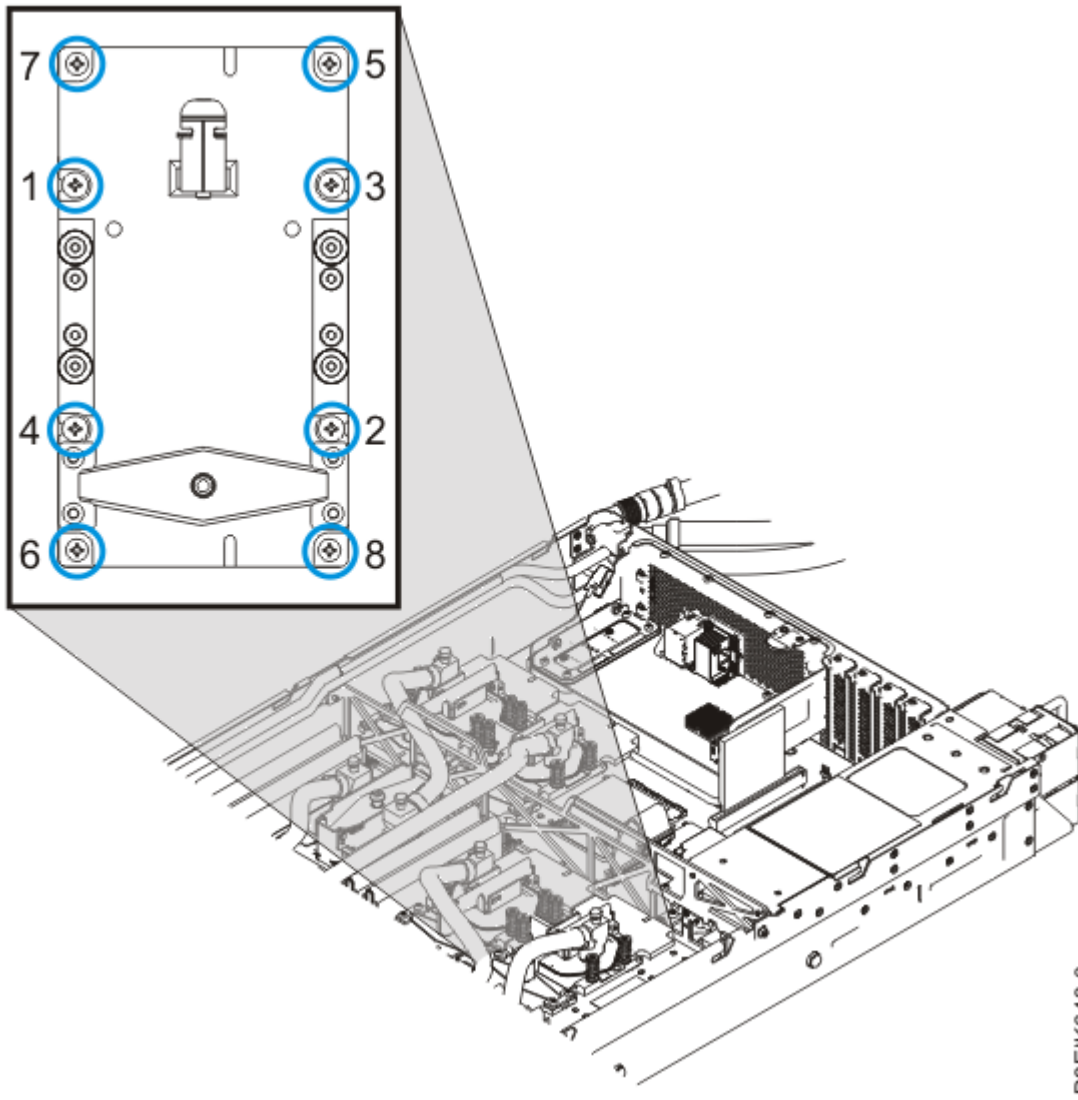

Figure 89. Replacing the GPU assembly into GPU socket
4. Secure the GPU to the system backplane. Use a #2 Phillips head screw driver. Tighten the screws in the sequence that is shown in Figure 89 on page 98.